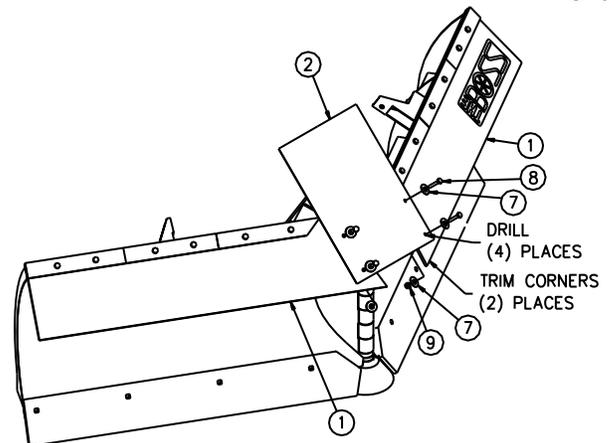

Figure 3. Center Flap Installation, HTX-V
6. For HTX-V align and clamp Center Belting (2) as follows:
- Center the Center Belting (2) to allow an equal amount of overlap on each half of Rubber Belting (1).
- Position Center Belting (2) so that the 16-inch width is horizontal and the 19 inch length is vertical. This is illustrated in Figure 3.
- Position the front corners of Center Belting (2) up approximately 1-1/2" from the front edge of Rubber Belting (1).